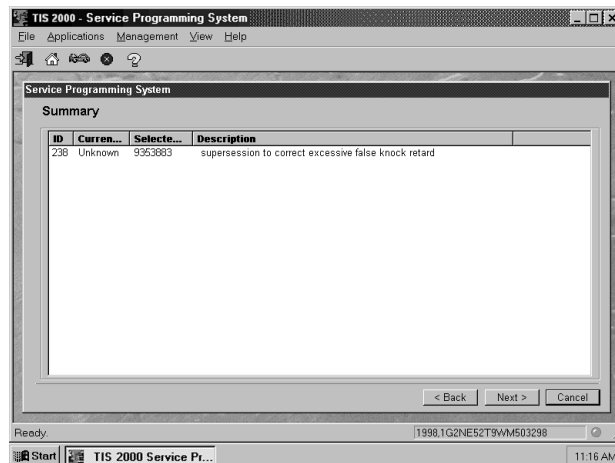

FIGURE 8-28. Summary Screen
l. After making the necessary selections, a Summary screen appears (Figure 8-28) allowing you to confirm your selection. Select **Next** to continue.